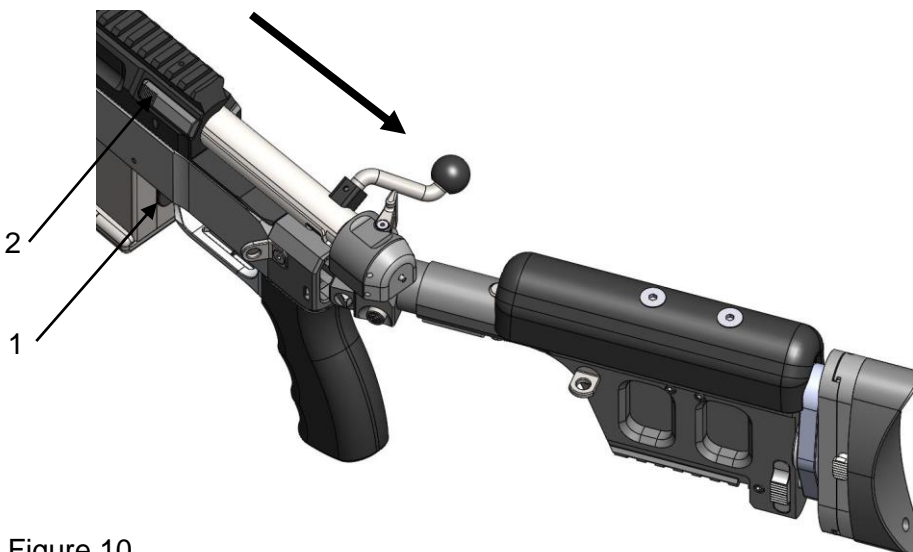

Figure 10
(1) Remove magazine
- Press magazine catch "1" and remove magazine (Figure 10)
(2) Remove bolt completely
- Push bolt support "2" (Figure 10); remove bolt to the rear at the same time